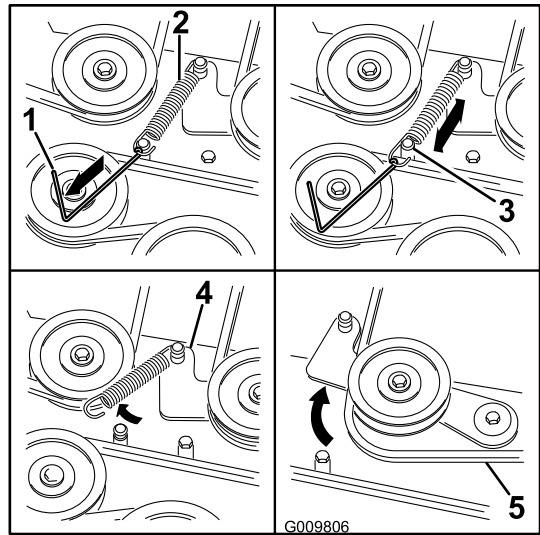

Figure 62
8. Using a spring removal tool, (Toro Part No. 92-5771), remove the idler spring from the deck post to remove tension on the idler pulley (Figure 62).
11. Install the new belt around the mower pulleys and the clutch pulley under the engine (Figure 62).
12. Using a spring-removal tool, (Toro Part No. 92-5771), install the idler spring over the deck post and placing tension on the idler pulley and mower belt (Figure 62).